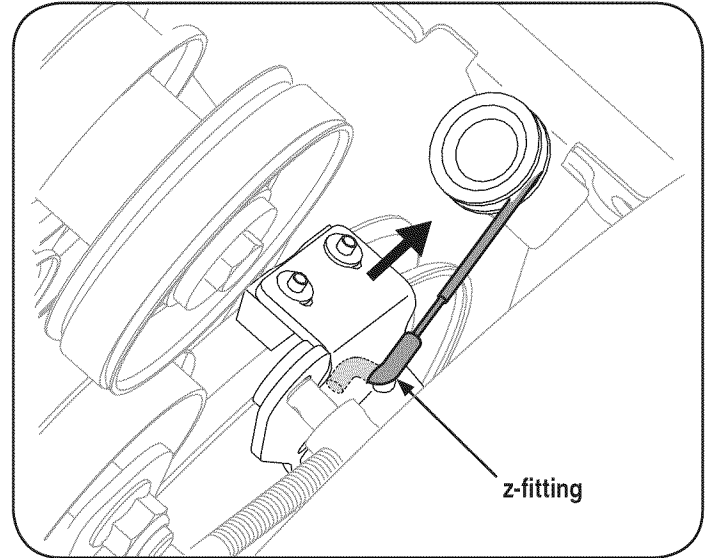

Figure 32
- Pull the brake bracket assembly towards the cable guide roller and unhook the auger cable z-fitting. See Figure 32.